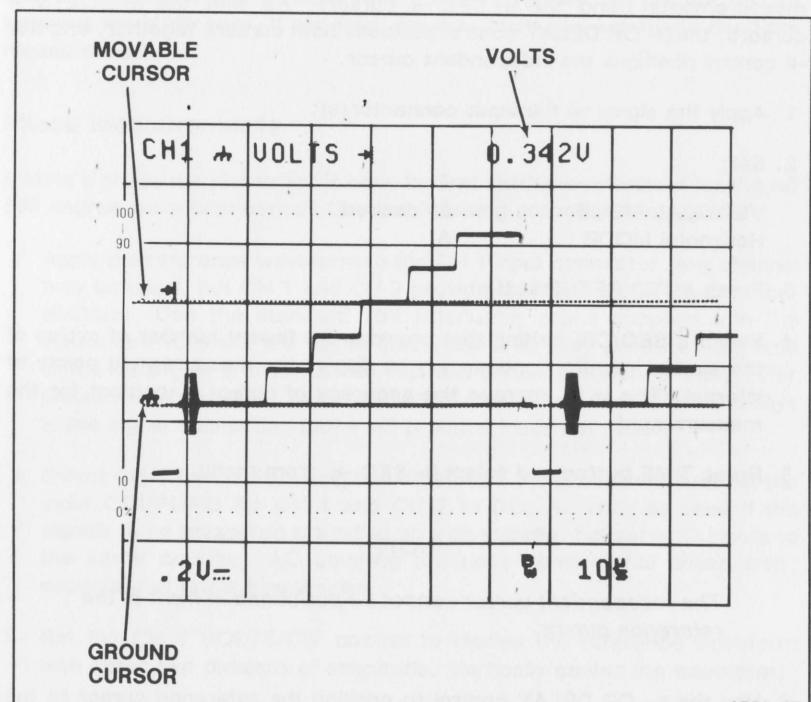

Figure 5-4. Voltage measurement.
5. Position the independent cursor using the \rightarrow control to the measurement point on the waveform and read out the value of the cursor position (shown in Figure 5-4). (The \leftarrow OR DELAY control has no effect.)
The test signal used for illustration purposes in Figure 5-4 is a video test signal. For triggering on a video waveform, select TV LINE Trigger COUPLING and negative (\neg) Trigger SLOPE; for other signal types, no change of COUPLING or SLOPE is required.